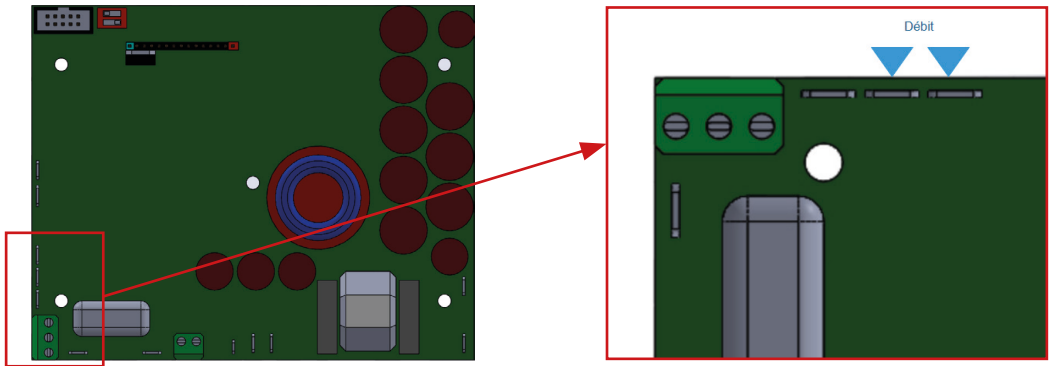

Figure 3
- Connect the sensor to the card as shown in Figure 3 below: